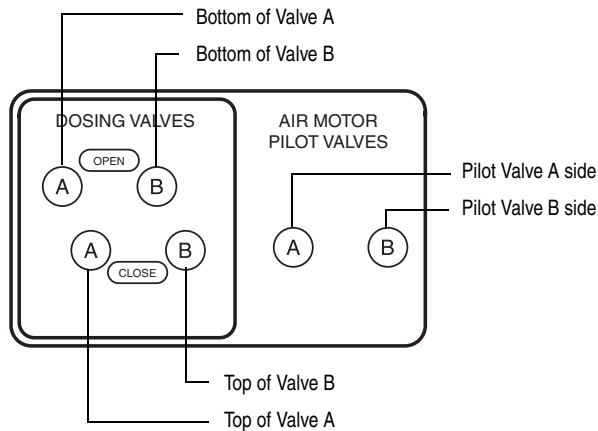

FIG. 6: Control Box - bottom
3. Cut air line tubing (included) to length needed to connect between metering valves (601) and solenoid outlets. FIG. 3, page 10, and FIG. 6.
6. Connect fluid lines (provided by installer) between pumps and metering valves (601).
7. Connect mixed material hose to fluid mix manifold (607) outlet (E).
8. Cut air line tubing (included) to length needed to connect between metering valves (601) and solenoid outlets. FIG. 3, page 10, and FIG. 6, page 13.